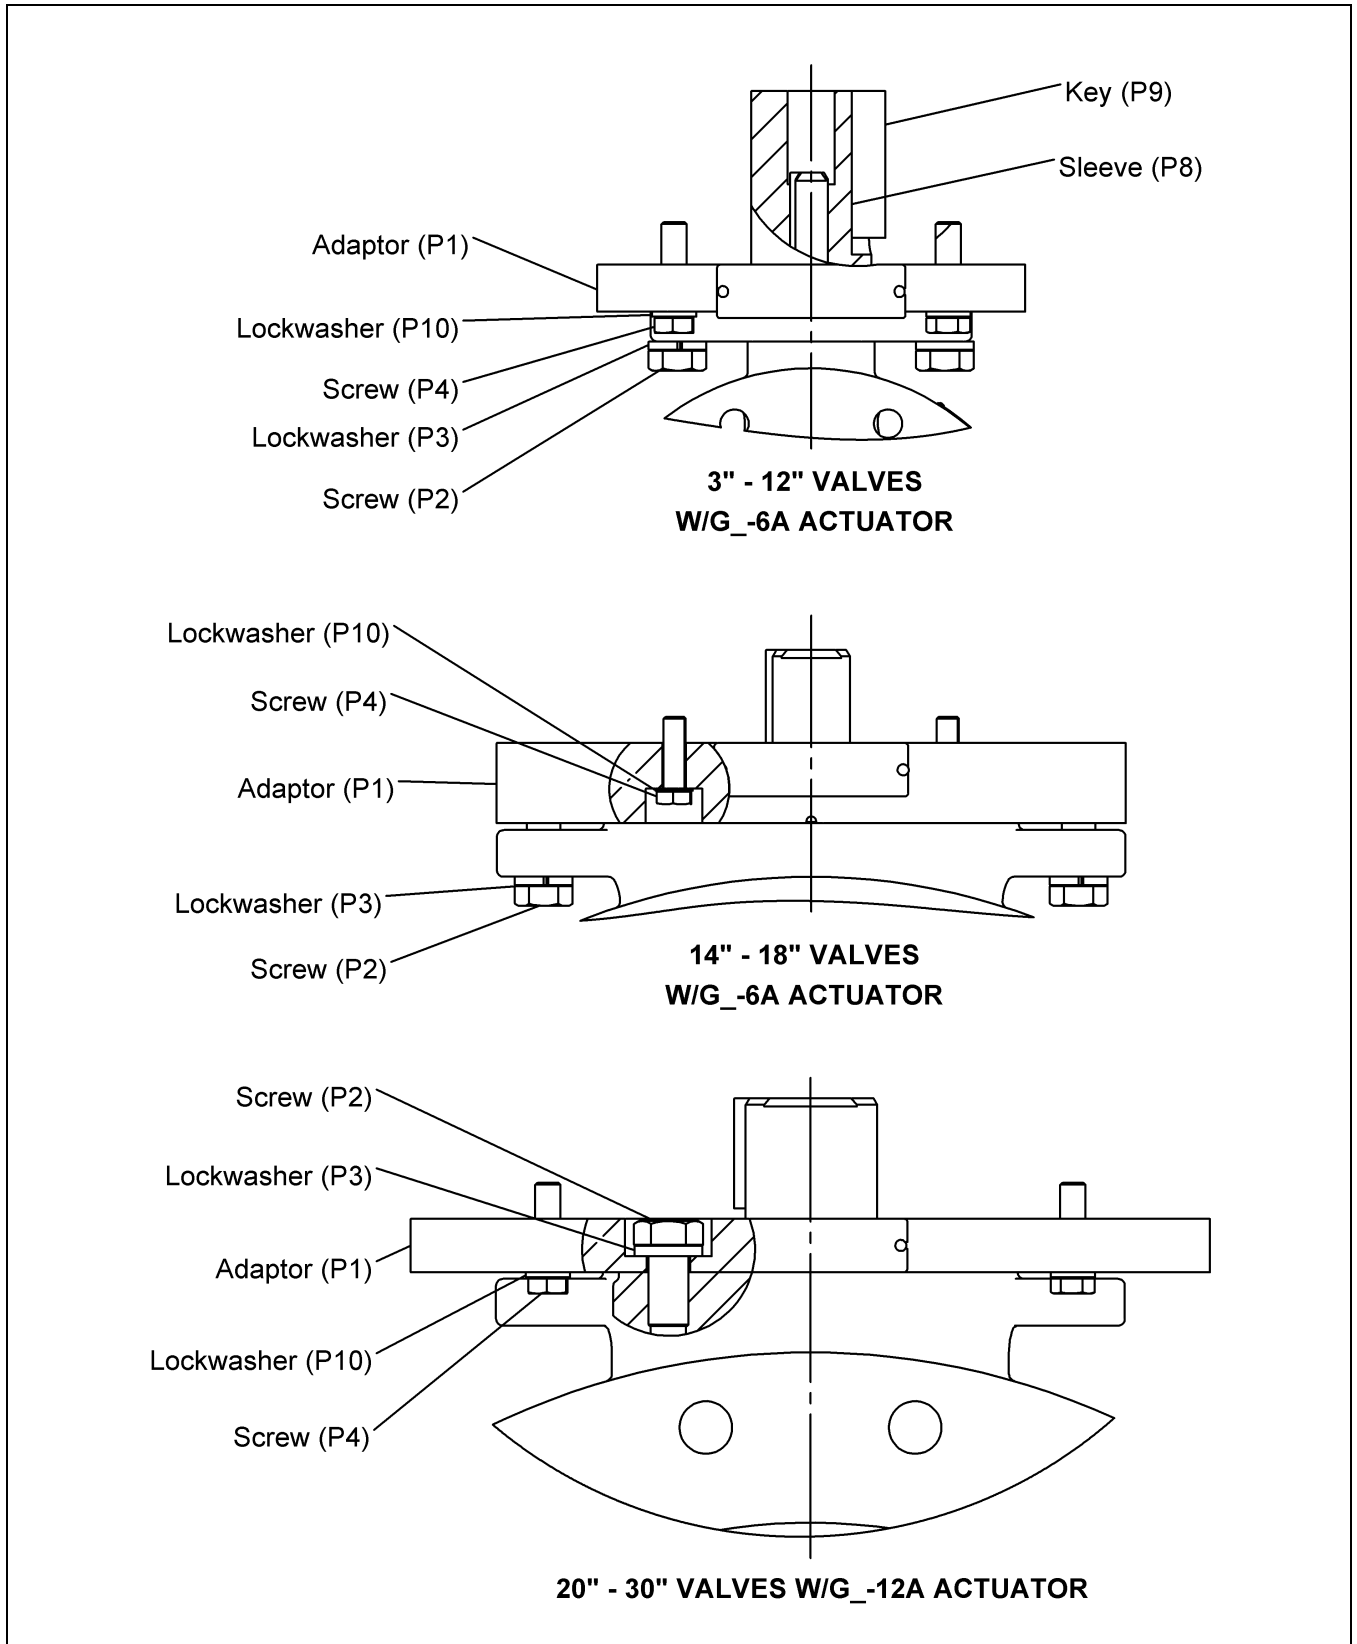

Figure 4 – Connecting Parts Identification
4. Remove screws (P4) and lockwashers (P10) and lift actuator assembly off adaptor (P1). See Figure 4 for connecting parts identification.
2. Fasten the actuator assembly to the adaptor plate (P1) with lockwashers (P3) and screws (P2). See Figure 4 for connecting parts identification.